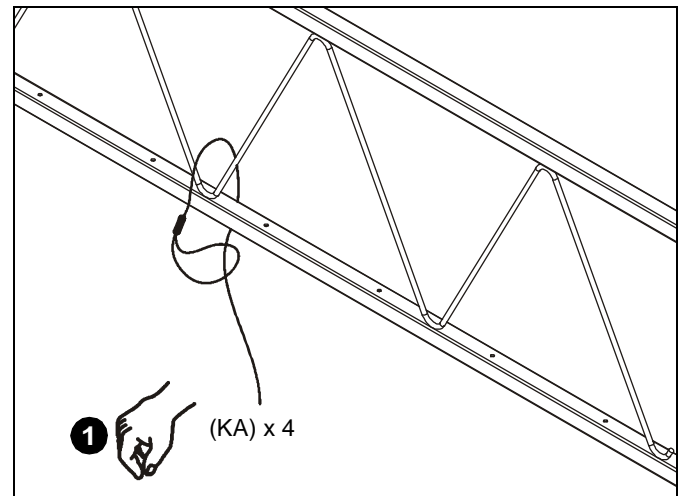

Figure 6
1. Route end of cable (KA) over truss at marked cable anchor support location and then through cable loop. Repeat for 3 remaining support locations. (See Figure 6)